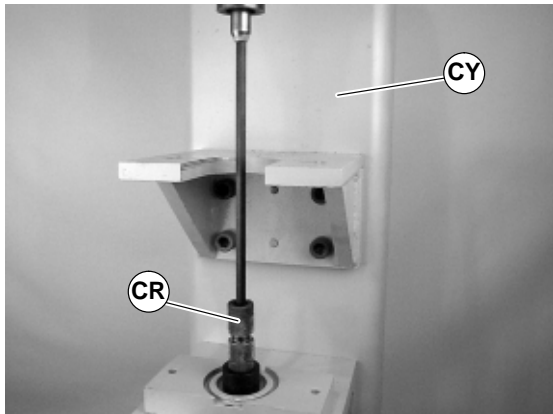

Figure 42
5. With arbor press (CY of Figure 42) or similar device, press bearing out of pulley (CR).